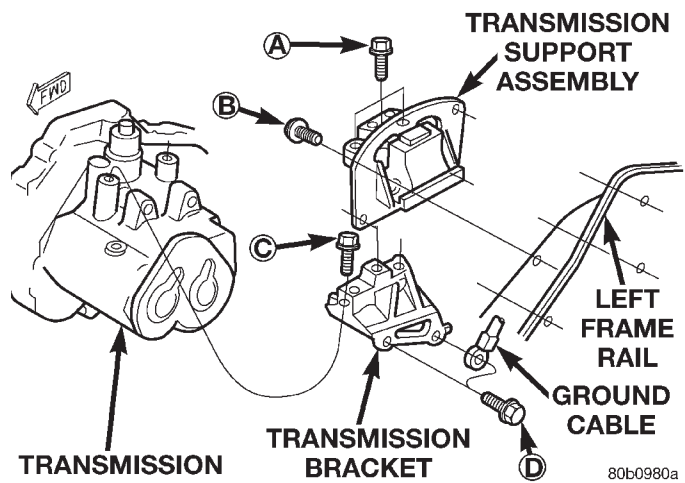

Fig. 20 Left Side Mount—Typical
- (1) Support the transmission with a transmission jack.
- (2) Remove the three vertical bolts (A) from the mount to the transmission bracket (Fig. 20).
- (3) Remove the mount to frame rail fasteners (B) and remove mount (Fig. 20).